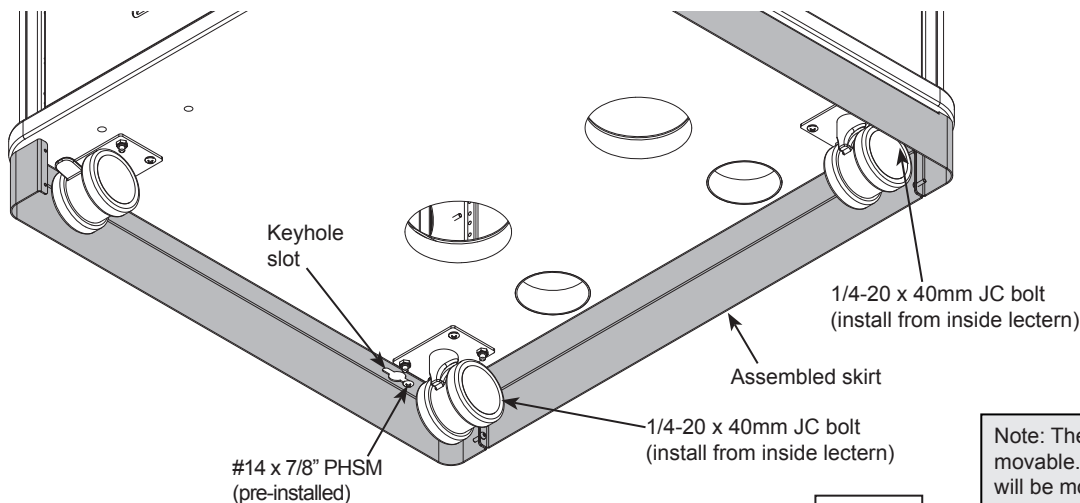

Figure 1.3
3. Hook the skirt keyhole slot at the end of each side skirt over the pre-installed #14 x 7/8" PHSM screw. **Figure 1.3.**
4. From inside the lectern (on audience-side), install (2) 1/4-20 x 40mm JC bolts through the base panel to secure the assembled skirt, and tighten securely.